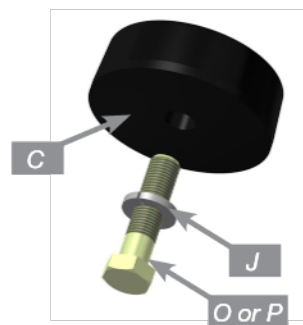

fig. 16
7. Seat the air spring within the lower control arm/roll plate and align the threaded center of the air spring with the lower spring seat. Apply a long bolt (P) FOR STANDARD MUSTANG, (O) FOR PERFORMANCE PACK MUSTANG and lock washer (J) through the centering spacer (C) and into the underside of the control arm (Fig. 16). Thread the bolt into the air spring (Fig. 17), and torque to 27Nm (20 lb.-ft.).